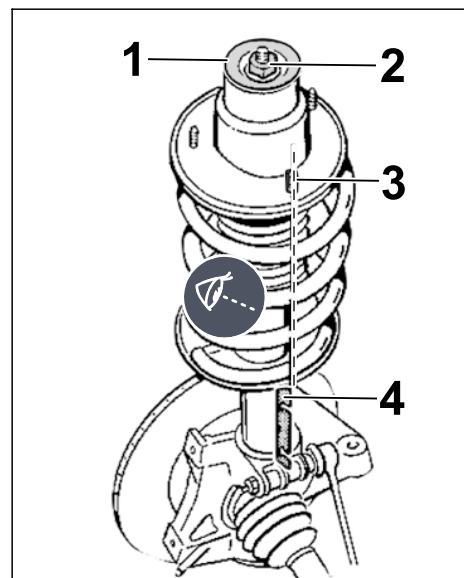

Figure 5
- Deepest threaded bolt on the spring strut supporting mount must be aligned with the shock absorber retaining bracket (⇒ *Figure 5*)